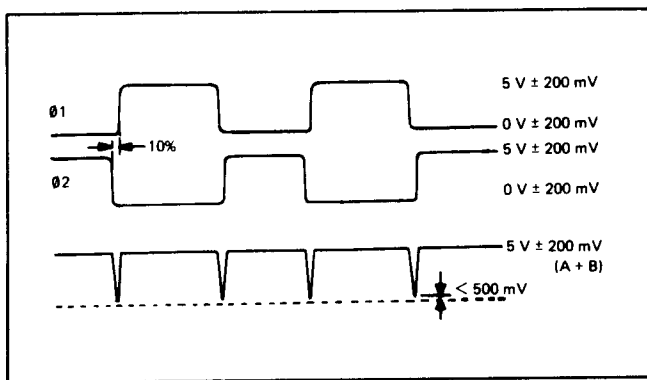

Figure 8-7-8. Clock generator waveforms
1. Check that the clock generator waveforms are as shown in Figure 8-7-8.